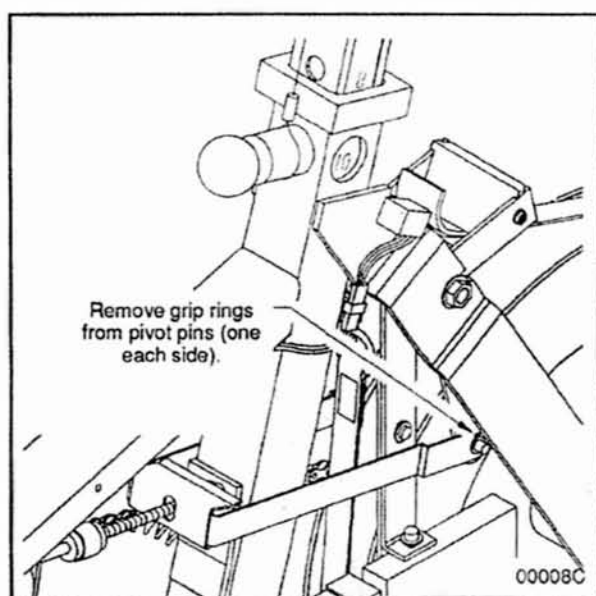

Figure 5.12 Rod Pivot Pins.
3. Remove the grip rings from the pivot pins of the tension arms. See Figure 5.12. Slide the tension bracket off of the pivot pins.